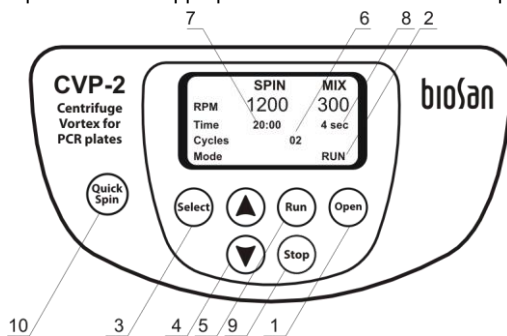

Fig. 2. Front panel
- 4.2. Press the **Open** key (fig. 2/1) and open the lid by lifting it upwards by hand (indication "OPEN" will appear in the Mode bottom line, fig. 2/2). Lid will open only with rotor stopped.
Press the **QS** (fig. 2/10) button for quick mixing / sedimentation and hold it pressed for the desired time. The unit will automatically when the **QS** button is released.
- 4.7.1. By pressing **Select** key (fig. 2/3) choose a parameter to change. Each pressing of the **Select** key consecutively activates parameters in operation cycle, currently active parameter is indicated by blinking.
- 4.7.2. Use ▼ and ▲ keys (fig. 2/4) for setting the corresponding values (pressing a key for longer than 2 seconds will increase change rate).
- 4.12. Press **Run** key (fig. 2/5) to start operation.
- 4.13. Rotor will begin rotating and on the display, indication RUN (fig. 2/2), cycle countdown (fig. 2/6) and changing parameters of the current mode (fig. 2/7 and fig. 2/8).
- 4.14. Operation can be stopped before the set number of cycles elapses if necessary by pressing the **Stop** key (fig. 2/9).
- 4.15. Unit stops automatically after executing set number of cycles (blinking indication STOP (fig. 2/2) on the display) and the lid unlocks automatically. A sound signal is emitted after full stop of the rotor. Press **Stop** key (fig. 2/9) to stop the signal.